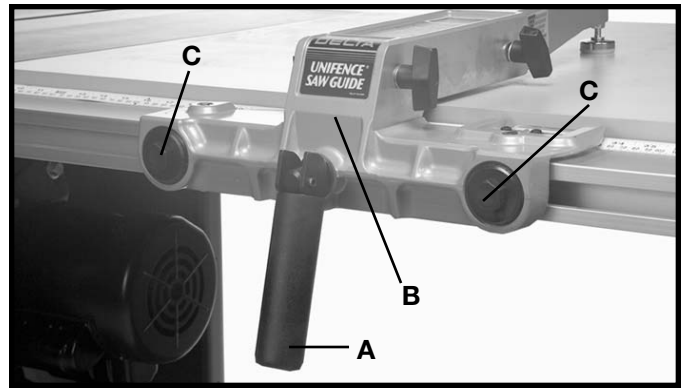
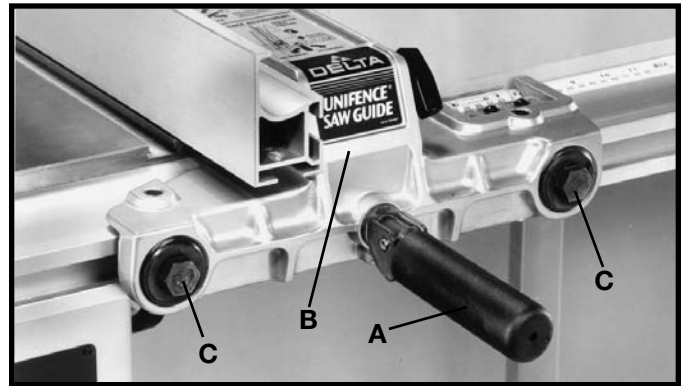

Fig. 80
Fig. 81
When the fence locking handle (A) is pushed to the down position, as shown in Fig. 80, the fence body (B) should be completely clamped to the guide rail. If the fence body (B) is not completely clamped to the guide rail when the handle (A) is in the position shown in Fig. 80, lift up on locking handle (A) Fig. 81, and slightly tighten two adjustment plugs (C) using the arbor wrench or 7/8" wrench. Adjustment plugs (C) should be tightened an equal amount. Check to see if the fence body (B) is completely fastened to the rail by pushing down on locking lever (A). Adjust further if necessary. **IMPORTANT: AFTER ADJUSTING THE CLAMPING ACTION OF THE FENCE LOCKING HANDLE, CHECK TO SEE IF THE FENCE IS PARALLEL TO THE MITER GAGE SLOT AND ADJUST IF NECESSARY.**